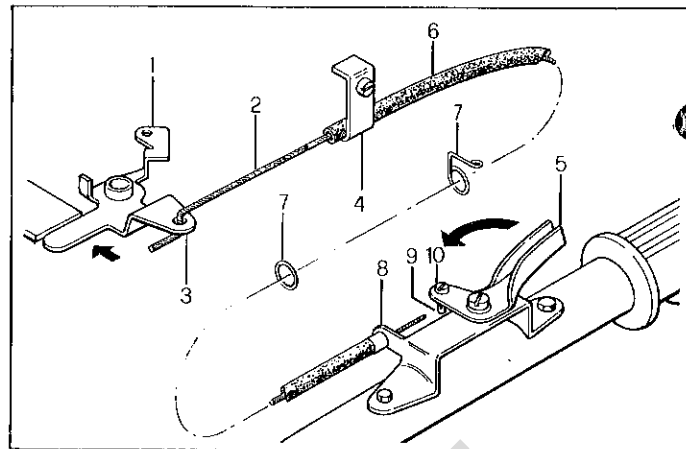

Fig. 6
Posizionare la leva (fig. 6, particolare 1) installata sul motore a fondo corsa, come indicato dalla freccia in figura.
Have lever (fig. 6, item 1) on engine located at the end of stroke as shown by an arrow in the figure. Screw cable cover (6) into cover-stop (8) from the side where wire (2) is straight. Insert wire (2) into hole (3) and have cover held with U-bolt (4).
Amener le levier (1, fig. 6) installé sur le moteur à fin de course comme indiqué par la flèche.
Den auf dem Motor angeordneten Hebel (Bild 6, Detail 1) bis zum Endanschlag bringen, wie im Bild mit Pfeil angegeben.